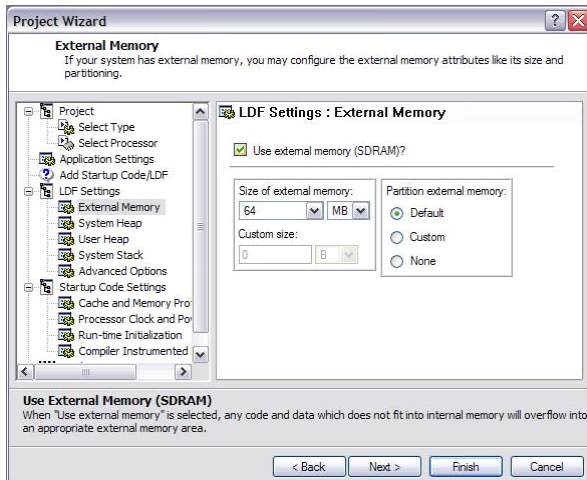

Figure 27. Project Wizard: LDF Settings: External Memory
2. Support for external memory (SDRAM) and the memory size must be added (Figure 27).